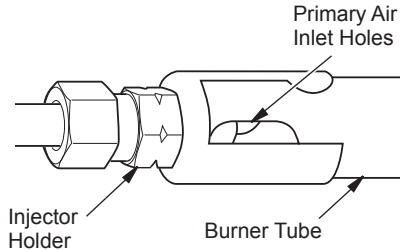

Figure 35 - Injector Holder On Outlet Burner Tube
2. Inspect burner, pilot, and primary air inlet holes in rear burner for dust and dirt (see Figure 35).